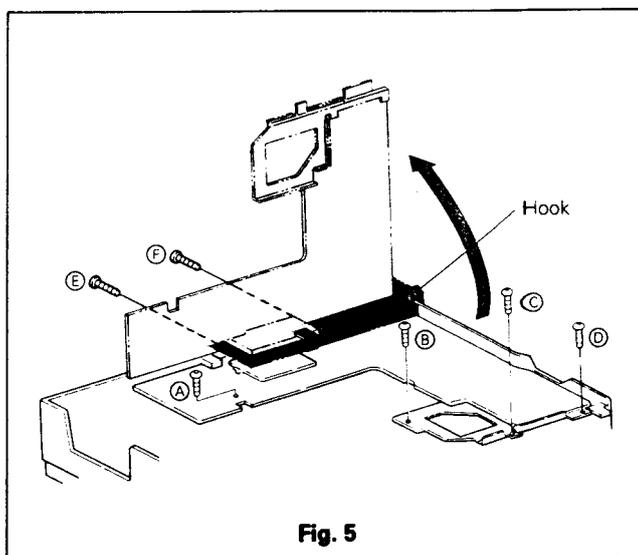

Fig. 5
- A. Remove 4 retaining screws on the top side (A), (B), (C) and (D) and 2 retaining screws (E) and (F) on the rear side of the signal circuit board, which is shown in Fig. 5.